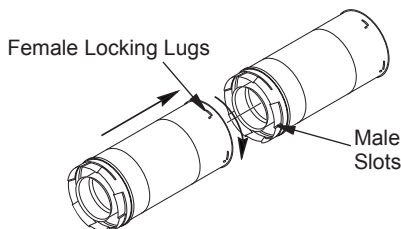

Figure 8 - Vent Pipe Connections
Twist-Lock Procedure: Female ends of pipes have locking lugs (indentations). These lugs will slide straight into matching slots on male ends of adjacent pipes. Push pipe sections together and twist one section clockwise approximately one-quarter turn until sections are fully locked (see Figure 8). *Note: Horizontal runs of vent must be supported every three feet. Use wall straps for this purpose.*
2. Assemble desired lengths of pipe and elbows necessary to reach from fireplace flue up through firestop. Be sure all pipe and elbow connections are fully twist-locked (see Figure 8, page 10).